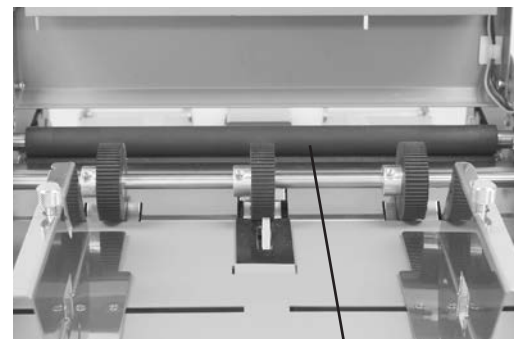

Fig. 15
1. Make sure machine is turned off and unplugged. All folders have four (4) rubber rollers (Fig. 15).